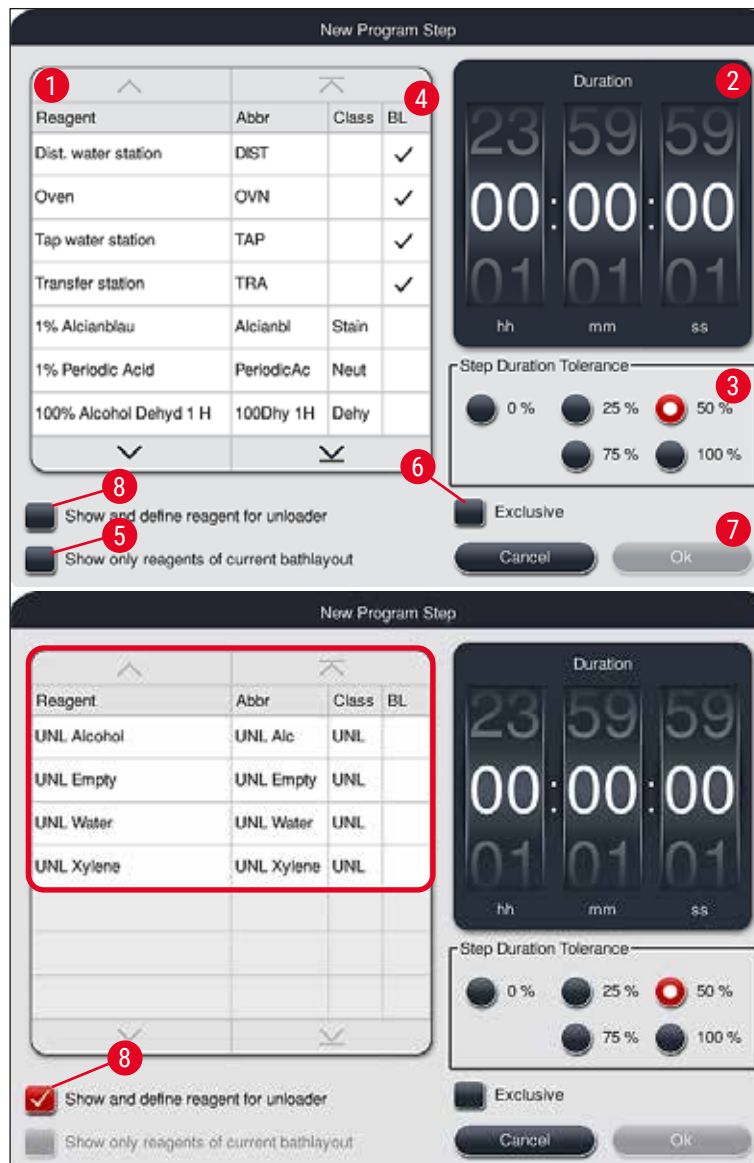

Fig. 47
- A window opens for defining the program step (→ "Fig. 47").